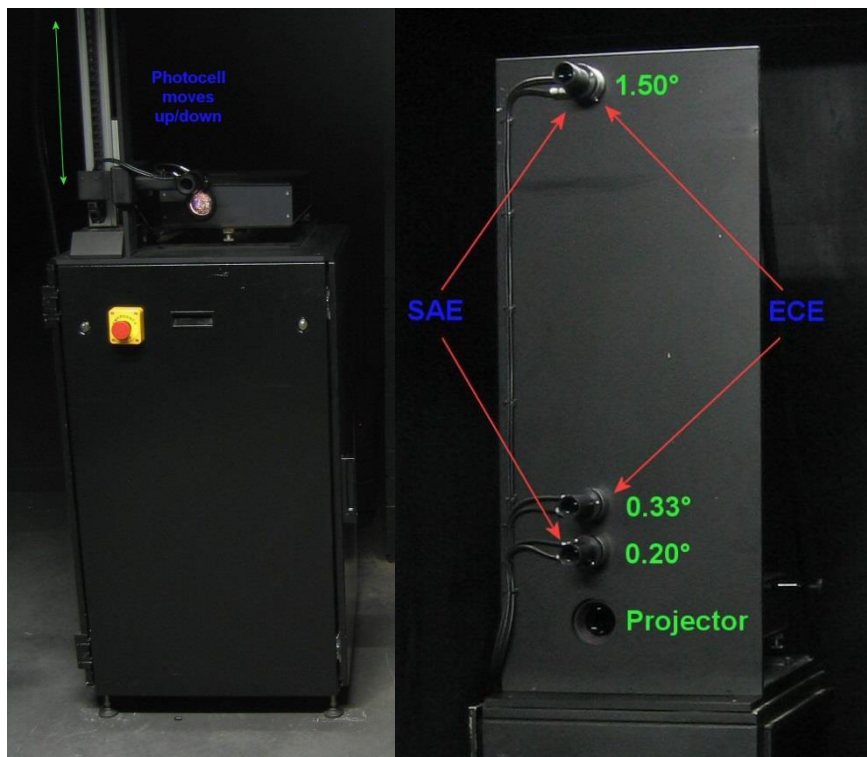

Figure 1: RR-1.0 Reflex Reflector Measurement System with linear actuator (left) and fixed photocell positions (right)
Typical RR systems are shown in Figure 1 below.
- A single photometer on a motorised linear actuator to move the detector to the required angle between 0.18° and 2.00° as shown in Figure 1 (left) above.
- Three photometers in the three standard positions shown in Figure 1 (right);
- Two photometers which can be positioned in either the ECE or the SAE standard positions shown in Figure 1 (right) so that any one test can automatically test all of an ECE test or an SAE test and the operator can change the photometer between ECE (0.33°) and SAE (0.20°) between tests;
- A single photometer which can be moved manually to the required position on the frame as shown in Figure 1 (right), where the operator needs to move the photometer as instructed by the software.